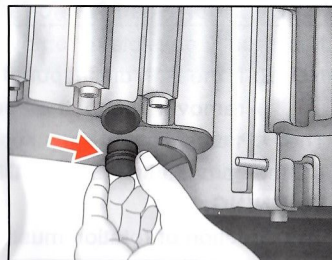

Fig.18
- (3) Remove the crankshaft timing plug located on the side of the sump. (Fig.18)